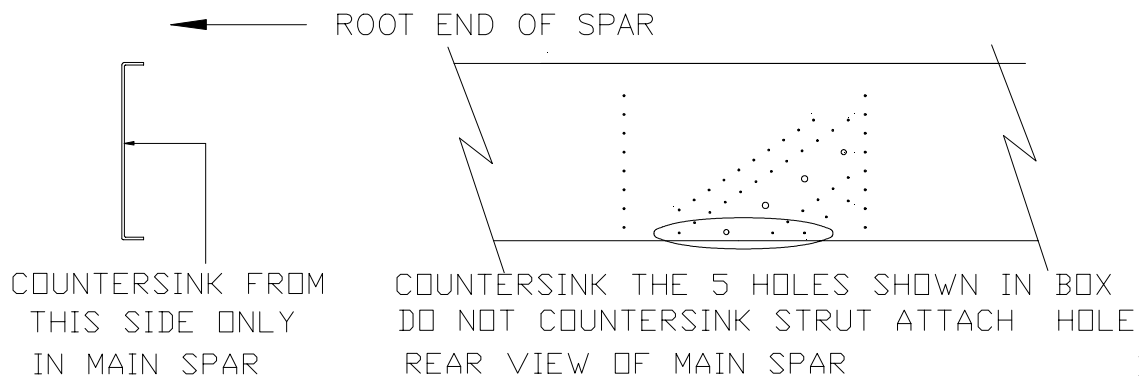

Figure 8.2.4
7) Countersink and debur the bottom five holes in the rear face of the Main Spar web. This is done in order to accommodate the bottom Spar Cap which will be installed over these rivet heads later. You will use 1/8" CS rivets (RV-4412) in these five holes. These are inserted from the backside of the Spar. Chromate the mating surfaces of the Main Spar (W-112) and Main Spar Doubler (W-603) and rivet in place with 1/8" avex rivets (RV-1410). Do not bolt the Wing Strut Fittings in place at this time. Figure 8.2.4.